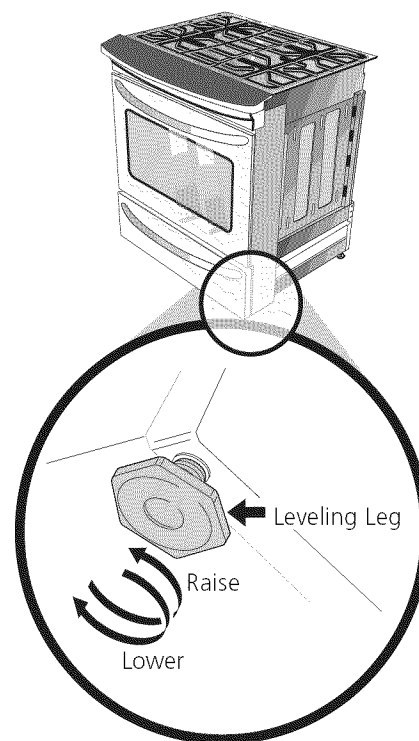

Figure 18
4. Level range if necessary, by adjusting 4 leg levelers with wrench (Figure 18). A minimum clearance of 1/8" (0.8 cm) is required between the bottom of the range and the rear leg levelers to allow room for the anti-tip brackets.